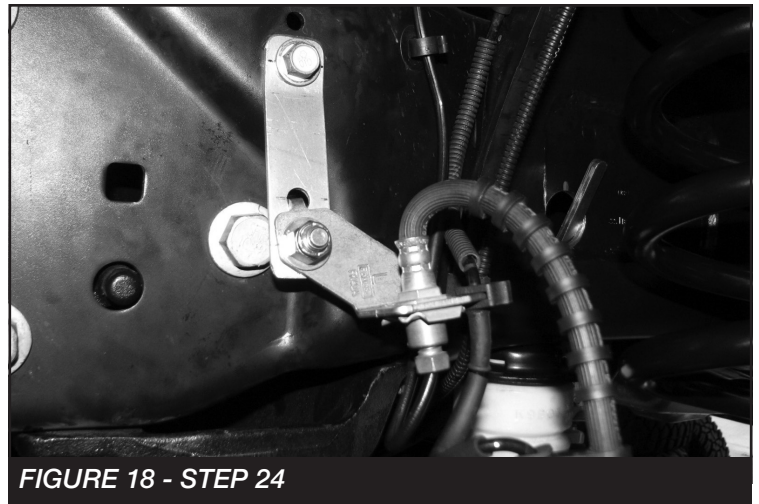

FIGURE 18 - STEP 24
24. **(DRIVER SIDE)** Install FT30659 (Brake line bracket) to the factory brake line tab using the supplied 3/8" x 1" hardware. Next, install the bracket to the frame using the factory hardware. Torque hardware to 52 ft-lbs. **SEE FIGURE 18**